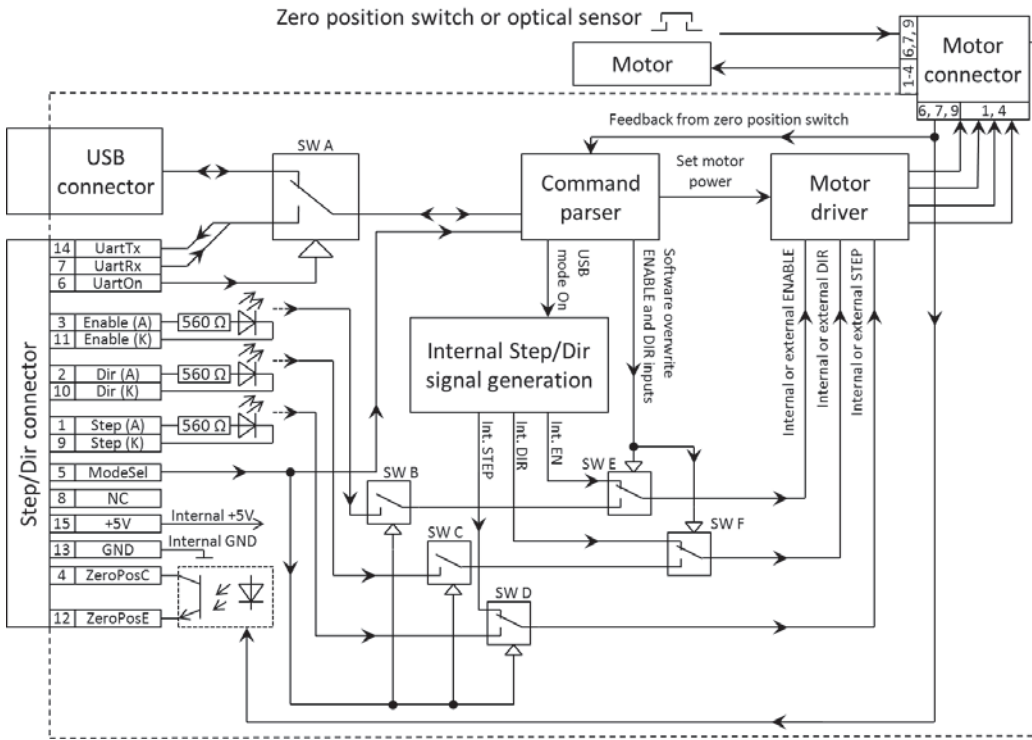

Figure 18. Block diagram of Watt Pilot controller.
Watt Pilot controller consists of three blocks. Each is shown in Figure 18.
• **Dir (A), Dir (K).** 3.3 V - 5 V compatible input to optocoupler anode Dir (A) and cathode Dir (K). This input controls motor direction in “Step-Dir” mode. +5 V on Dir (A) pin with reference to Dir (K) sets motor direction clockwise. This input can be overridden by command parser – see “Serial commands and protocol” on page 46 and Figure 18(SW F) on page 33 for details.
• **Enable (A), Enable (K).** 3.3 V - 5 V compatible input to optocoupler anode Enable (A) and cathode Enable (K). This input reduces motor current in in “Step-Dir” mode. +5 V on Enable (A) pin with reference to Enable (K) reduce motor current to “Standby current” value set in controller settings. Otherwise, “Motion current” flows to motor and “STEP” pulses rotate the motor. This input can be overridden by command parser – see “Serial commands and protocol” on page 46 and Figure 18 (SW F) on page 33 for details.